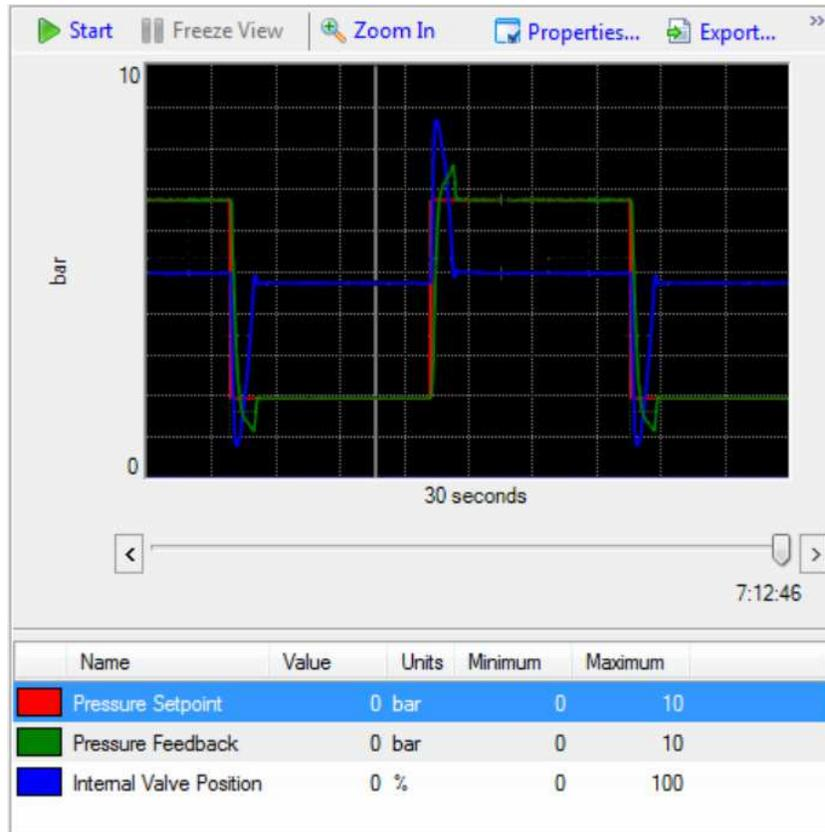

Figure 6-11. Expected Dynamic Performance
7. Step the setpoint to 60%, Adjust the primary gain until the feedback pressure moves quickly to the setpoint. Some overshoot is normal (see Figure 6-11) when in the control range since an increase in pressure is necessary to force flow into the actuator.